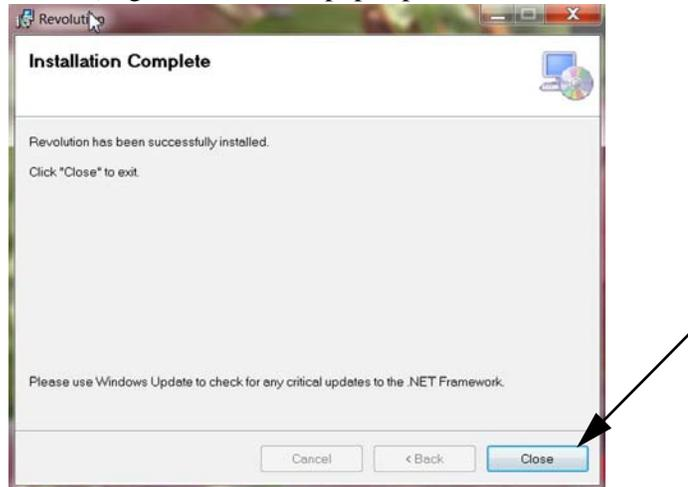

Figure 4-9. *Installation Complete Screen*
- When the *Installation Complete* (Figure 4-9) screen pops up, click **Close**.